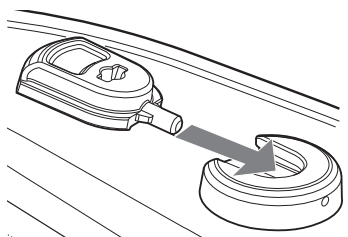

Fig. 32 Fitting the blanking plug
2. Slide a blanking plug into the universal accessory clip (Fig. 32) to protect it.